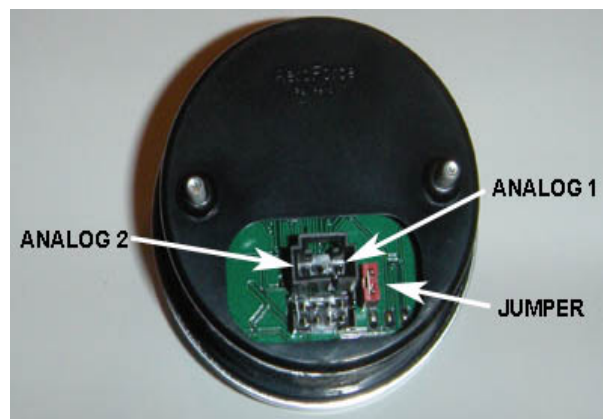

Figure 1
- 4. Plug both cables into the back of the *Interceptor*.** See figure 1. Press the *Interceptor(s)* into the gauge pod or mounting hardware.
6. **Connect the 0-5v analog inputs (optional).** You will see 3 pins above the main connector on the back of the gauge as shown in *figure 1*. The 2 outer pins connect to the analog inputs. The center pin is for switched 12v power and is not required for virtually any CAN bus vehicle. To connect switched 12v power first remove the **jumper** next to the main connector if connecting to external power. This jumper is required for OBD2 port power only. Connect separate **red** power wire, which exits the middle of the 3 wire mini cable as shown in *figure 1*, to a switched 12v line or circuit in the vehicle. These circuits are commonly known as “accessory” circuits because they are only “hot” when the ignition is turned on. A recommended way of doing this step is to use a product called an “*Add a Circuit*”, made by *Littelfuse*, available at most car parts outlets. These kits, which sell for under \$10, allow you to easily use an existing circuit in the fuse block, such as the power windows, sunroof, etc. to power the gauge only when the ignition is on, known as ACC circuits.
The right side pin, when looking at the rear of the gauge, goes to analog input 1. The left pin is for analog input 2. See *figure 1*. Included in the gauge packaging is a 3 wire cable that connects here. Once attached to the gauge, you'll see that the green wire is for analog 1, the white for analog 2. These inputs can be used to read the outputs from pressure senders, A/F ratio analog outputs, 2 or 3 bar MAP sensors, or any voltage up to 5v that you want to monitor and/or record. You can scale these signals with a menu function described below. ***These inputs are rated for 0-5 volts, with an over-voltage protection circuit built in. However, running more than 6v into these inputs for an extended period of time could effect the operation of the entire gauge, and possible damage it.***
7. **Connect switched 12v power (if necessary).** The center pin of the 3 wire harness is for switched 12v power and is not required for virtually any CAN bus vehicle. However, if the gauge is not turning on/off as desired with power coming from the OBD2 port, you can use this method of power as an alternative. To connect switched 12v power first remove the **jumper** next to the main connector if connecting to external power. This jumper is required for OBD2 port power only. Connect separate **red** power wire, which exits the middle of the 3 wire mini cable as shown in *figure 1*, to a switched 12v line or circuit in the vehicle. These circuits are commonly known as "accessory" circuits because they are only "hot" when the ignition is turned on. A recommended way of doing this step is to use a product called an "Add a Circuit", made by *Littelfuse*, available at most car parts outlets. These kits, which sell for under \$10, allow you to easily use an existing circuit in the fuse block, such as the power windows, sunroof, etc. to power the gauge only when the ignition is on, known as ACC circuits.